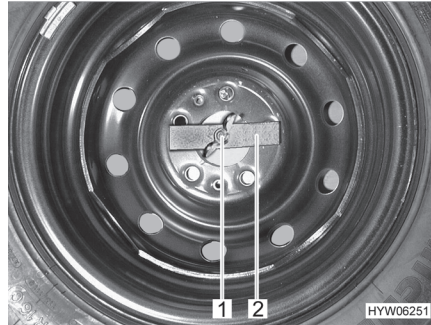

Fig. 232 Spare wheel in the rear storage space
- Loosen the wing nut (Fig. 232,1) and unscrew it.
- Remove the pad (Fig. 232,2).